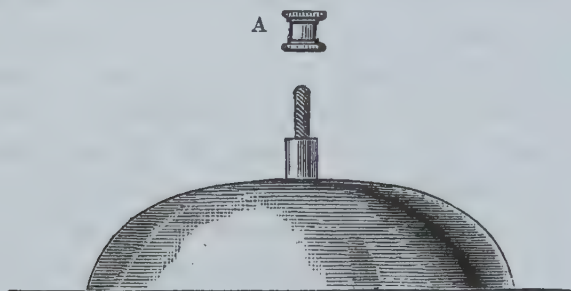

FIG. 44. LEAD WEIGHT.
pentagraph is supported on a brass pin with a screw (A) to keep it steady, cast into a heavy lead weight (Fig. 44). To make the instrument, plane up accurately the four arms out of a clean, dry piece of beech, until they are $\frac{5}{16}$ in. wide and $\frac{3}{16}$ in. thick; then drill the pinholes 1, 2, 3, 4, 5, 6, which should be done with an American twist drill, and not